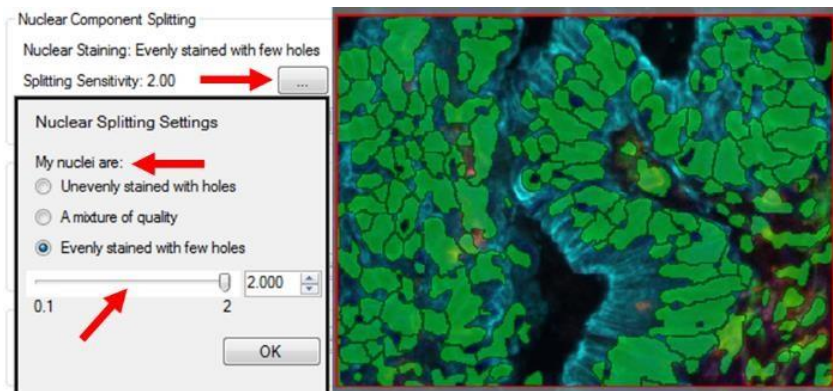

FIGURE G.6. Slider Right - Higher Values.
- i. Moving the slider right (higher values) reduces the amount of splitting. (See Figure G.6.)